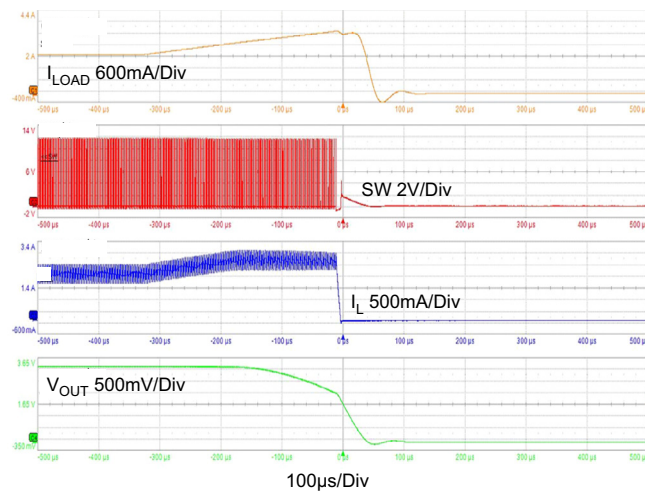

Figure 36. Low-Side Overcurrent (LSOC) Protection
RAA211320 has a V_{OUT} undervoltage (UV) protection feature. The internal undervoltage comparator compares the FB pin voltage to 65% of the reference voltage. When both LSOC is detected and this voltage drops below 65% of nominal (because of a drop in V_{OUT} to below 65% of its set point), the regulator stops switching and engages Hiccup mode operation at an interval of 13ms (see Figure 36).